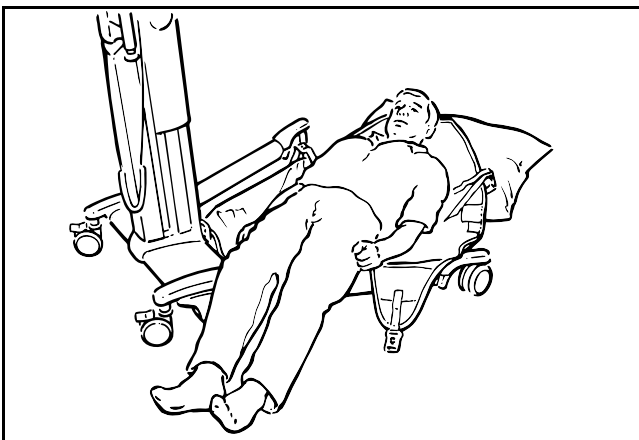

Fig. 31
Put the sling around the patient, by rolling or sitting the patient up. Open the chassis legs first, then approach and lift the patient's legs over the chassis as shown in Fig. 31.
**CAUTION: While the patient is positioned over the legs as shown in Fig. 31, DO NOT operate the adjustable chassis leg controls.**